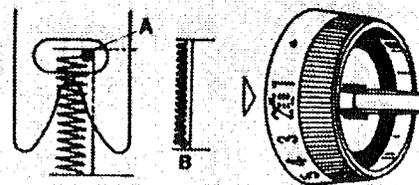

Fig. 2
2. Position fabric under needle. The first stroke of the needle should be to the right and pierce fabric at point A. Stitch forward on left side of buttonhole until desired length is obtained. Stop with needle in fabric on right side of stitching. Point B. See Fig. 2